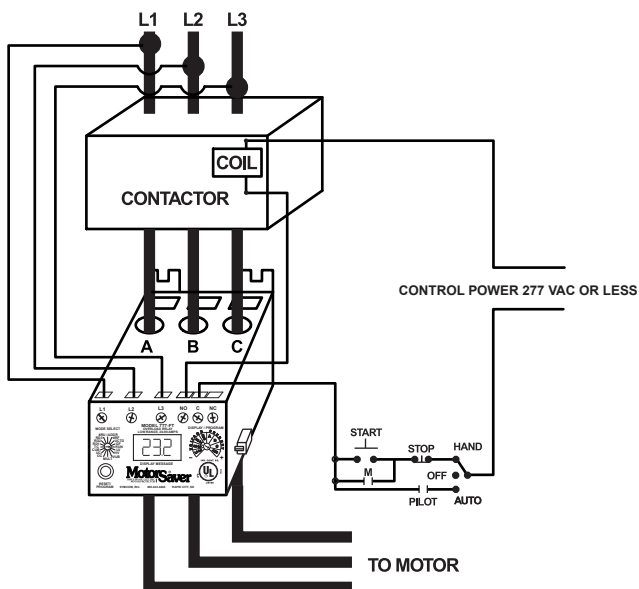

FIGURE 1: TYPICAL WIRING DIAGRAM FOR 26-90 FLA
- 2.1 For amperages from 26-90 amps, insert the motor conductors from the top of the unit through the holes marked 'A', 'B', and 'C'. Make certain that the conductor through each hole corresponds to the right motor conductor (i.e. the 'A' phase conductor should go through the 'A' round hole). See Figure 1 for a typical wiring diagram.